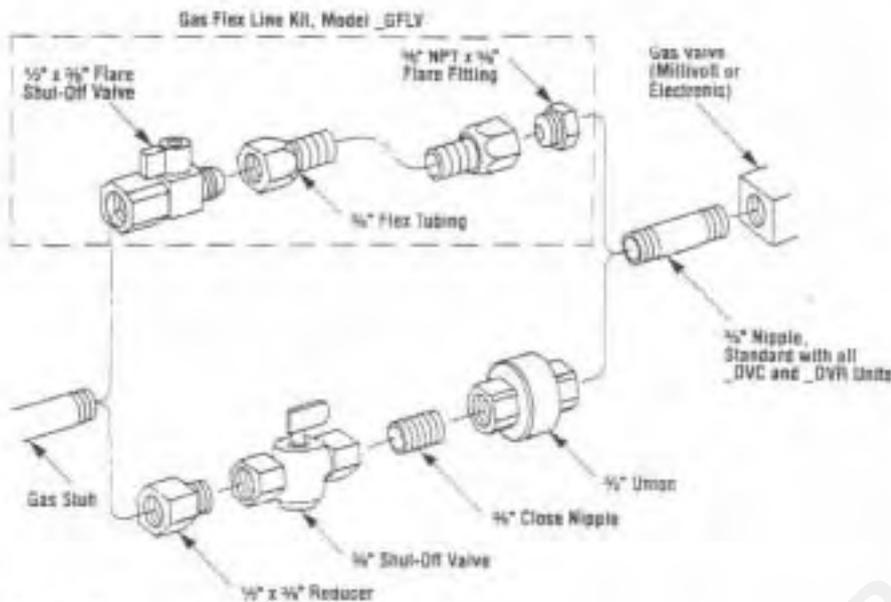

Figure 37
Step 9. Connecting Gas Line – Make gas line connections. All codes require a shut-off valve mounted in the supply line. Figure 37 illustrates two methods for connecting the gas supply. The flex-line method is acceptable in the U.S., however, Canadian requirements vary depending on locality. Installation must be in compliance with local codes.